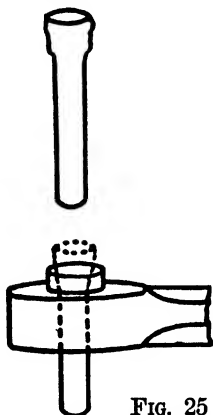

FIG. 25
2. Heat upset stock to nearly a white heat, and place it in a heading tool slightly larger than the diameter of the original stock. Fig. 25.